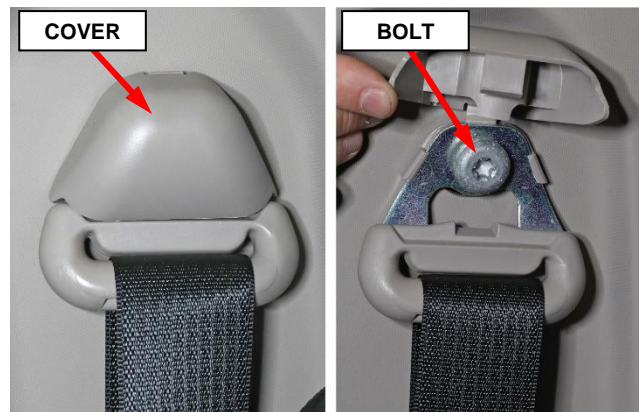

Figure 29 – Seat Belt Turning Loop
17. On the C-pillar, lift the seat belt turning loop cover then remove the turning loop bolt (Figure 29).
57. Using a **NEW** bolt and reusing the spacer washer, install the turning loop then tighten the bolt to 40 N·m (30 ft. lbs.) (Figure 29).
58. Install the seat belt turning loop cover (Figure 29).